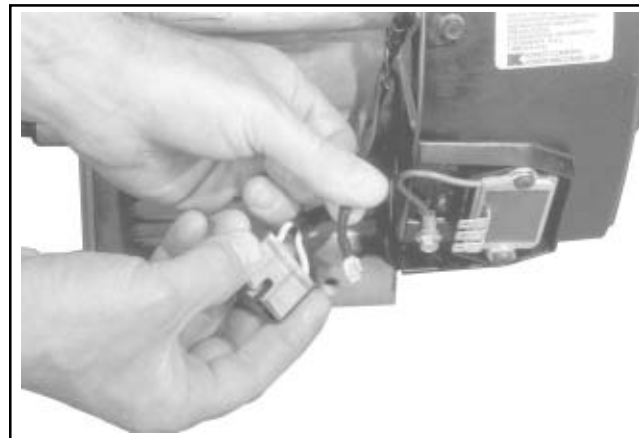

Figure 11-69. Installing B+ Lead into Plug.
2. Install the B+ terminal/lead into the center position of the rectifier-regulator plug and connect the plug to the rectifier-regulator. See Figures 11-69 and 11-70.